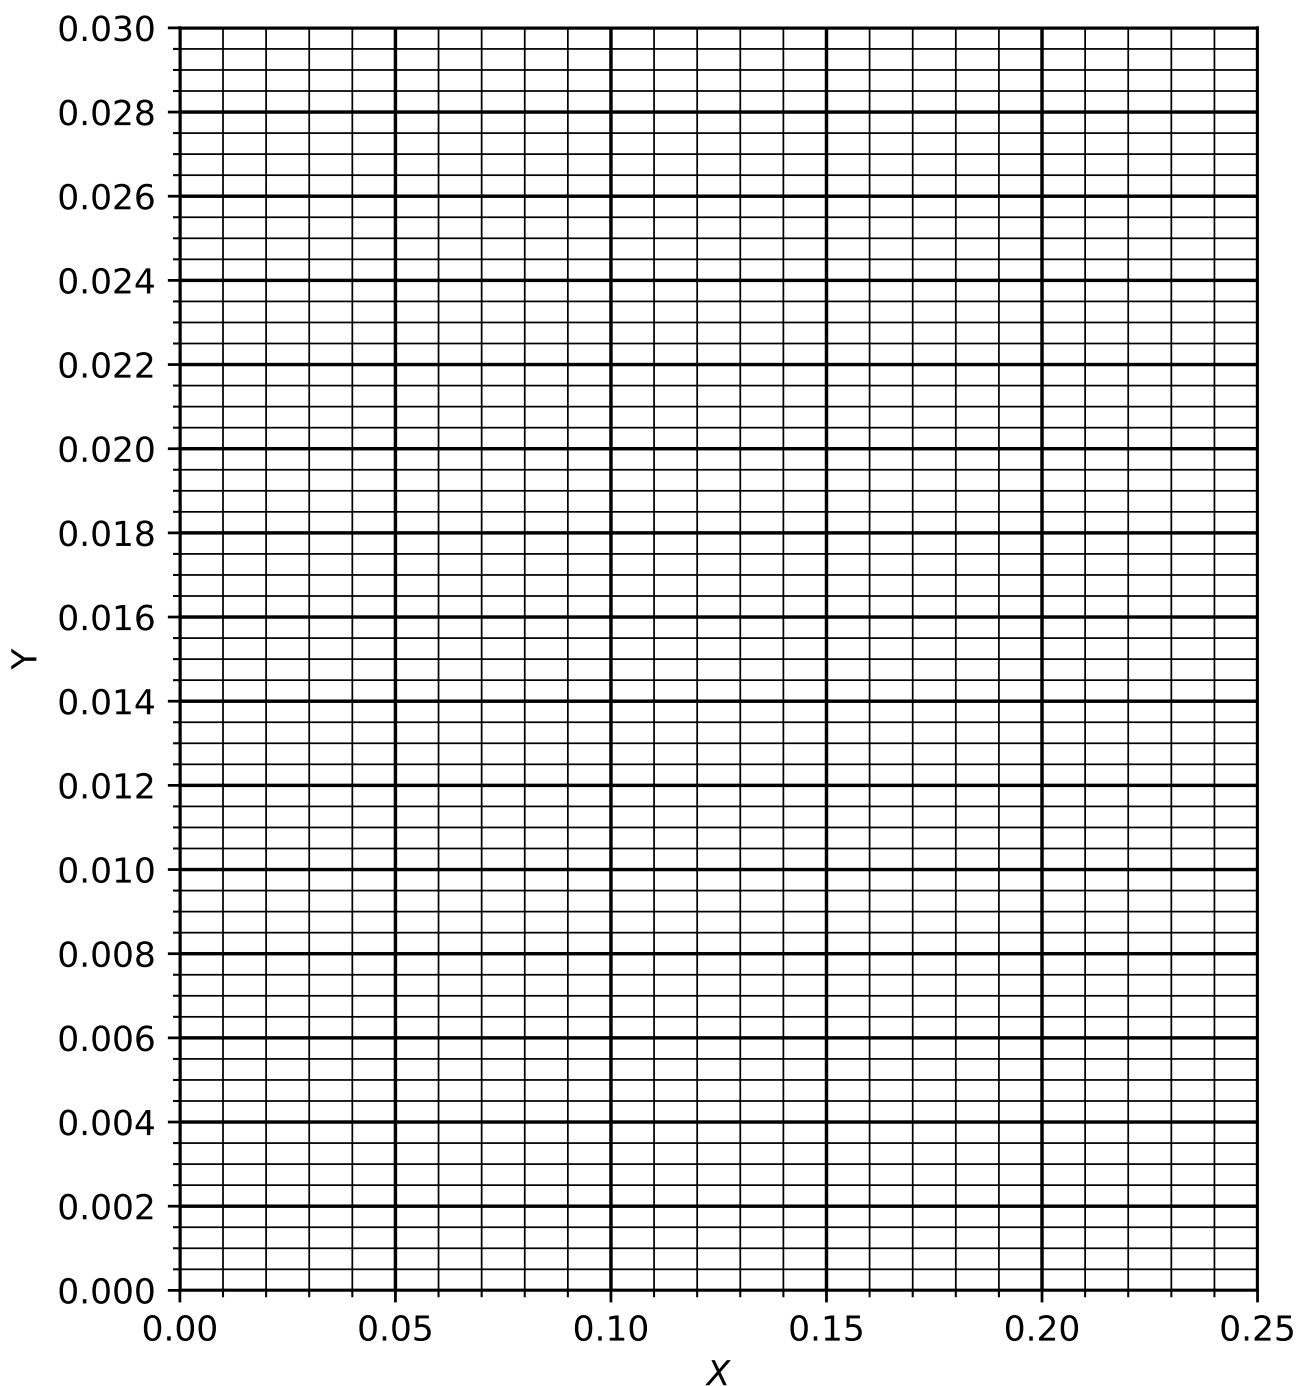

Figure 23: A blank X - Y graph for use in Q. 33.
- b) Determine the number of real plates required. A blank X - Y graph is provided in Fig. 23. [10 marks]